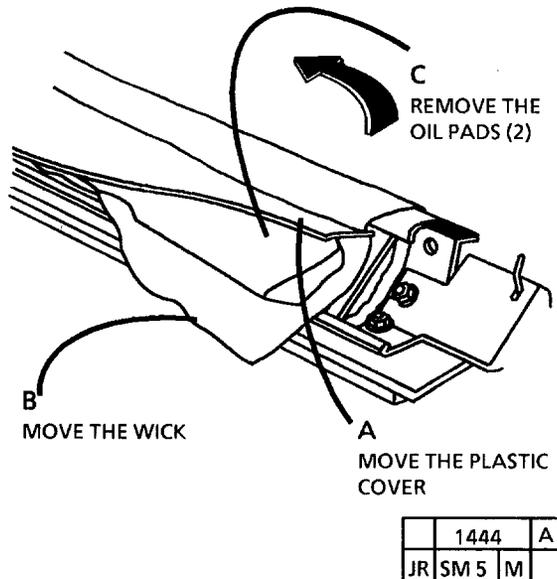

Figure 1. Remove the Oil Pads
3. (FIGURE 1): REMOVE THE OIL PADS.